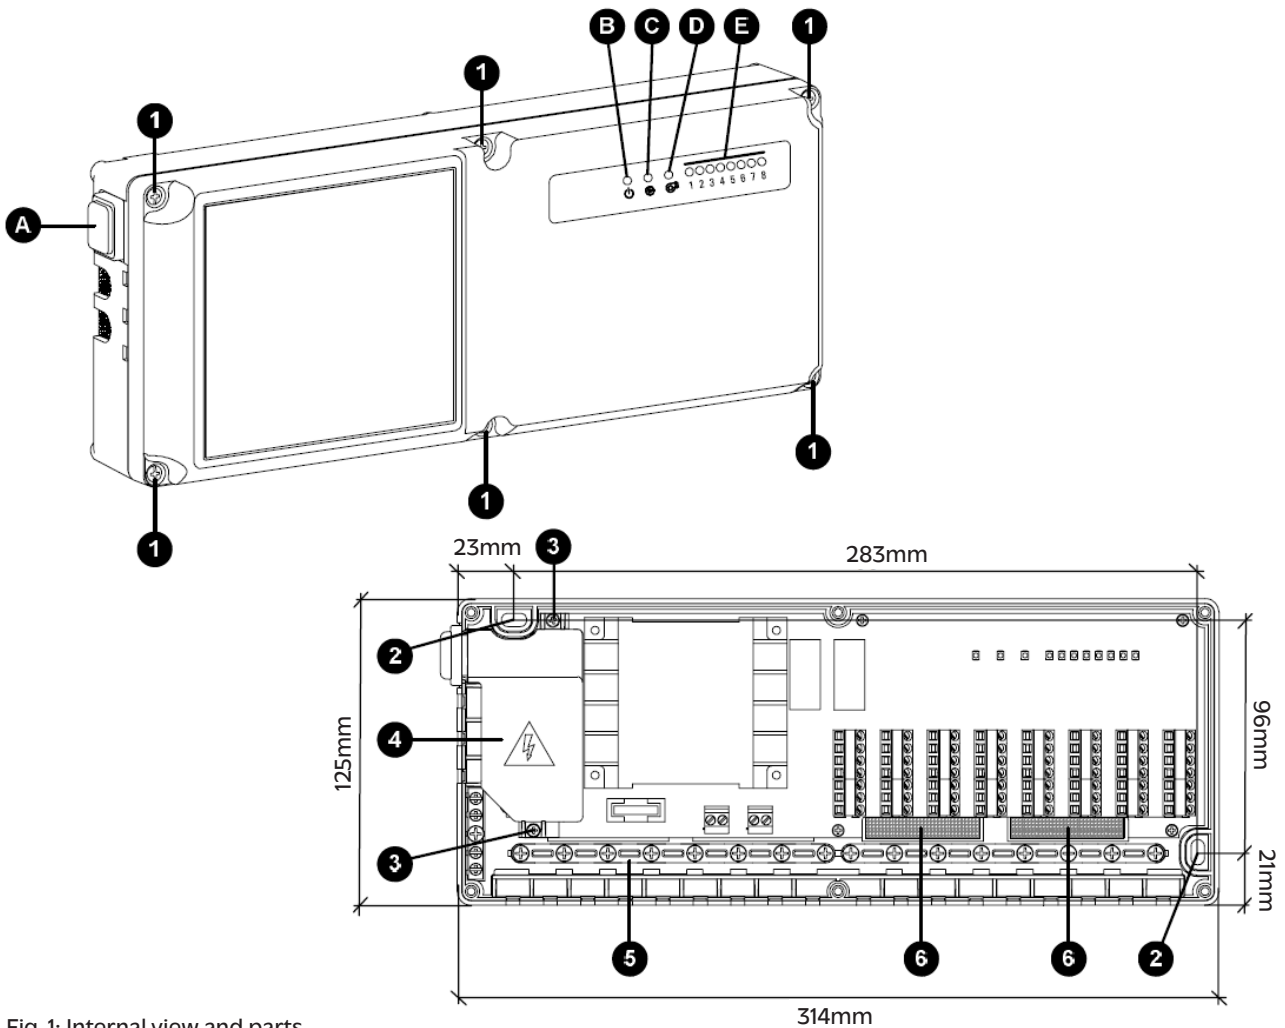

Fig. 1: Internal view and parts.
**Green LED - Power Supply (B - Fig. 1)**
**Red LED - Pump Output Activation (C - Fig. 1)**
### Red LED - Boiler Output Activation (D - Fig. 1)
### Actuator Outputs State LEDs (E - Fig. 1)
### ON/OFF Illuminated Switch (A - Fig. 1)
The illuminated switch at the lower left hand side of the wiring centre will isolate the whole of the wiring centre except the parts under the plastic cover (4 - Fig. 1) to allow access to thermostats and actuators for testing and fault finding during installation. When the switch light is turned on the wiring centre is powered, when it is off the wiring centre is unpowered.
- Remove the 6 screws labelled as 1 in Fig. 1 then remove the front plastic cover.
- Fix the device base to the wall by using the two screw holes labelled 2 in Fig. 1.
- Remove the 2 screws labelled as 3 in Fig. 1 then remove the plastic cover labelled as 4 in Fig. 1.
Cable entry from the rear (6 in Fig. 1):
With the help of a screwdriver, remove the plastic knockouts from the base, see item 6, Fig. 1. Cables can then be taken through the backplate to the terminal connections.